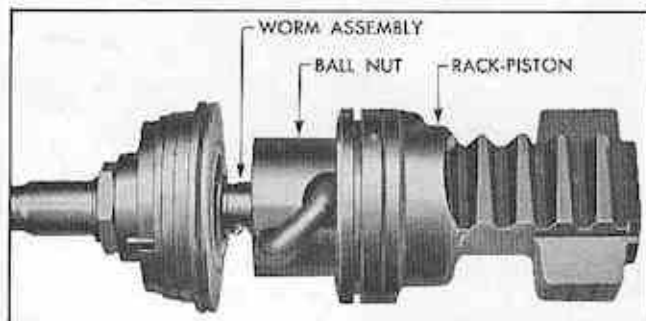

Fig. 64 Ball Nut and Worm Assembly Removed from Rack-Piston
2. Remove ball nut retaining screw and slide ball nut and worm assembly out of rack-piston with ball nut retaining screw hole down to prevent ball return guides and balls from falling out and losing balls (Fig. 64).